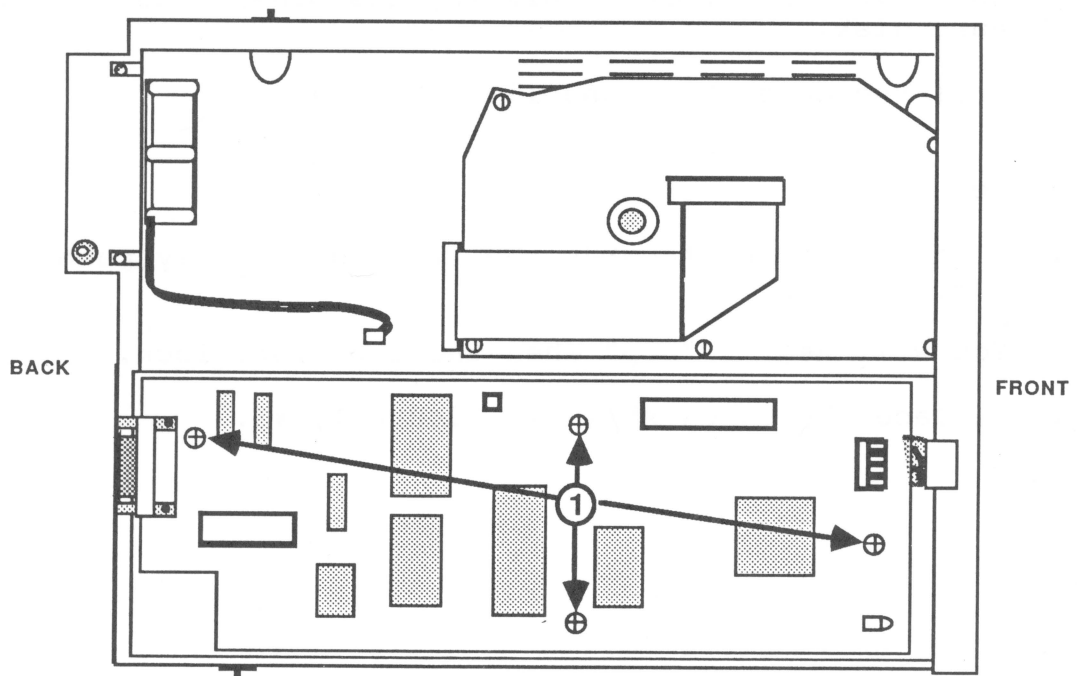

FIGURE 4
7. Remove the four screws (see Figure 4, #1).
2. Replace the four screws (see Figure 4, #1).